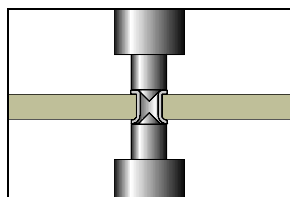

Figure 2: Flat set the Eyelet with the setting tool.
5. Flip the Setting Tool around in the Tool Handle and flat set the Eyelet. Apply firm pressure to flat set the Eyelet. (See Figure 2).